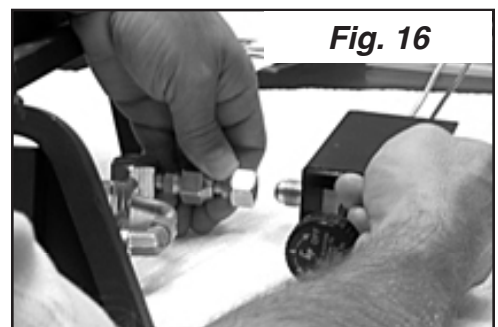

Fig. 16
8. Attach Pilot Burner Assembly to the other end of the 3/8" Swivel. (See Fig. 16)